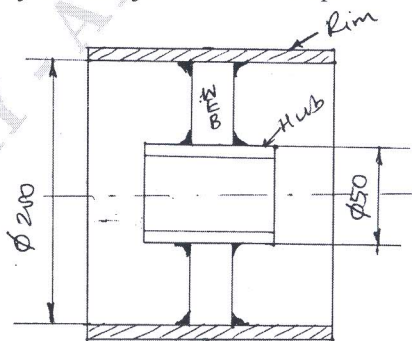

Fig.Q8(a)
- 8 a. A pulley has been fabricated by welding the rim of pulley to the annular web plate by a weld of size 3 mm \times 3 mm where as hub is welded to the web plate by 5 mm \times 5 mm weld as shown in Fig.Q8(a). Determine the safe power that can be transmitted by this pulley and welded pulley considering only welded joint. Assume speed of rim as 1000 rpm.